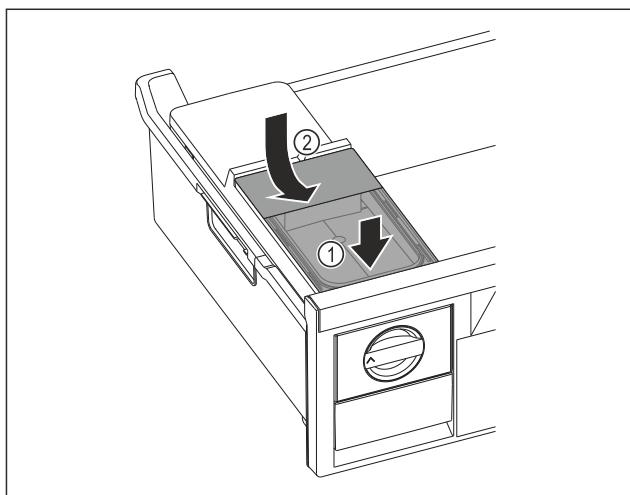

Fig. 150
- Position the water tank at the front. Fig. 150 (1)
- Lower the water tank at the rear. Fig. 150 (2)